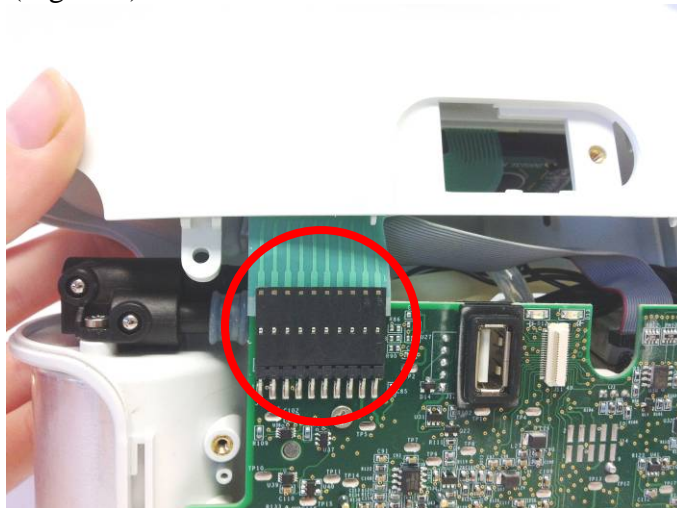

Figure 7: Unplug UIP cable from motherboard
2. Gently pull upward on the user interface panel to lift it about a centimeter off the device, being careful not to pull on the cables that are connected to the user interface panel. With the UIP cable connector exposed on the motherboard, gently unplug the UIP cable from the motherboard (Figure 7).
6. Plug the UIP cable back into the motherboard (Figure 7). Double check that the cables are fully seated to ensure a complete connection.